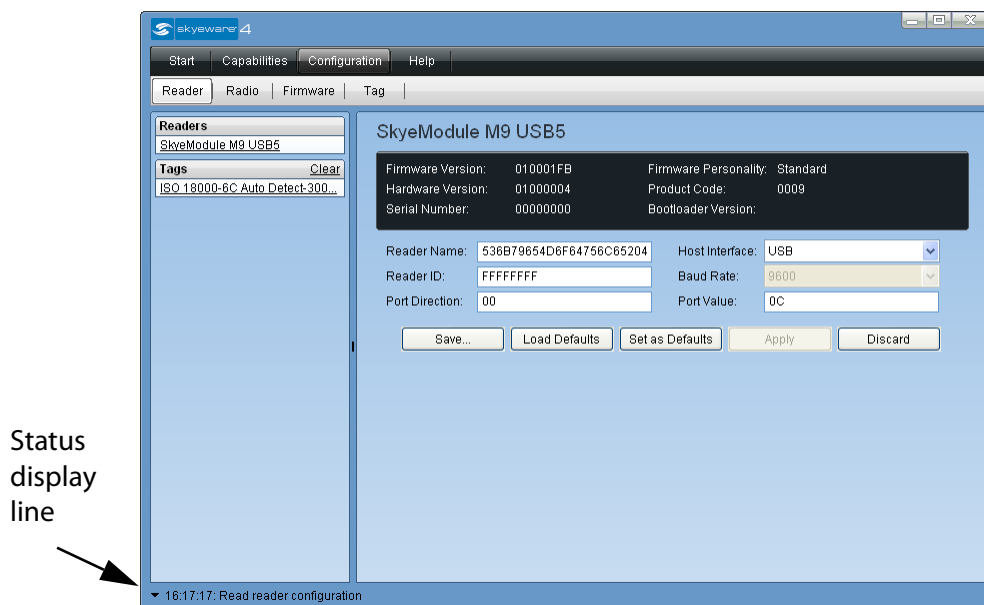

Figure A-2 Location of Status Display
A. Yes. SkyeWare 4 has a status display line on the bottom of each screen that reports status and debug messages (Figure A-2).
If you click on the arrow button on the status line, SkyeWare 4 displays an expanded status message history (Figure A-2).